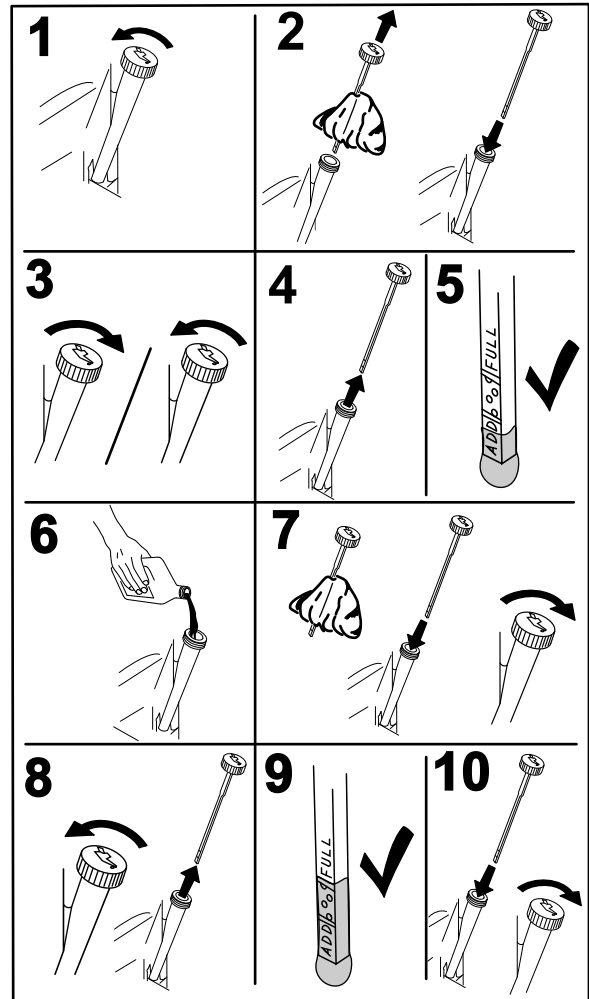

Figure 36
2. Stop the engine, remove the key, and wait for all moving parts to stop before leaving the operating position (Figure 36).